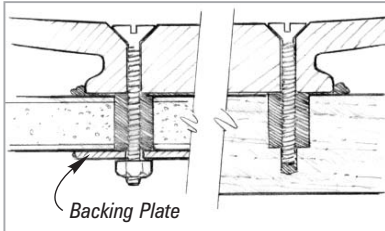

Figure 18 Tighten fasteners until a small amount of epoxy squeezes from the joint.
5. Place the hardware in position. Insert and tighten fasteners until a small amount of the mixture squeezes out of the joint (*Figure 18*).